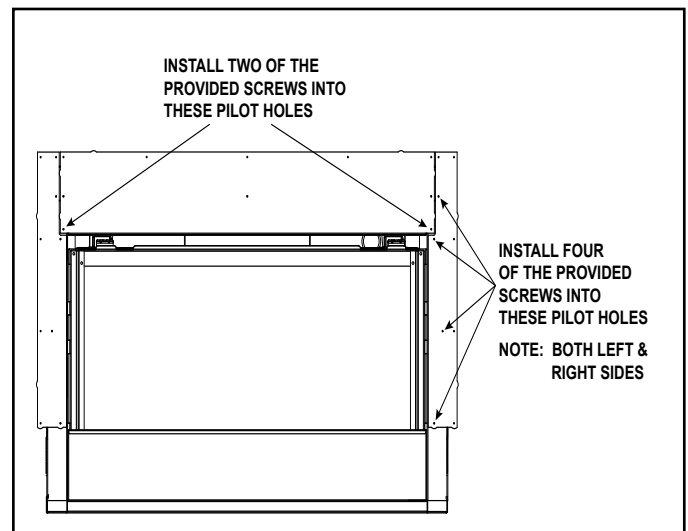

Figure 6.7 Installation of the Side Non-Combustible Components
4. Further secure the top non-combustible board by installing screws into the pilot holes located in the upper left and right corners of the top non-combustible board as shown in Figure 6.7.
5. Install the left and right non-combustible components with four of the provided Phillips screws. See Figure 6.7.